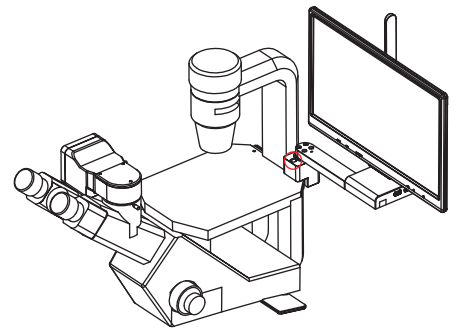

图3
- 2) Mount the display on the side of the microscope using an Allen wrench to tighten the 2 screws, as shown in Figure 3;